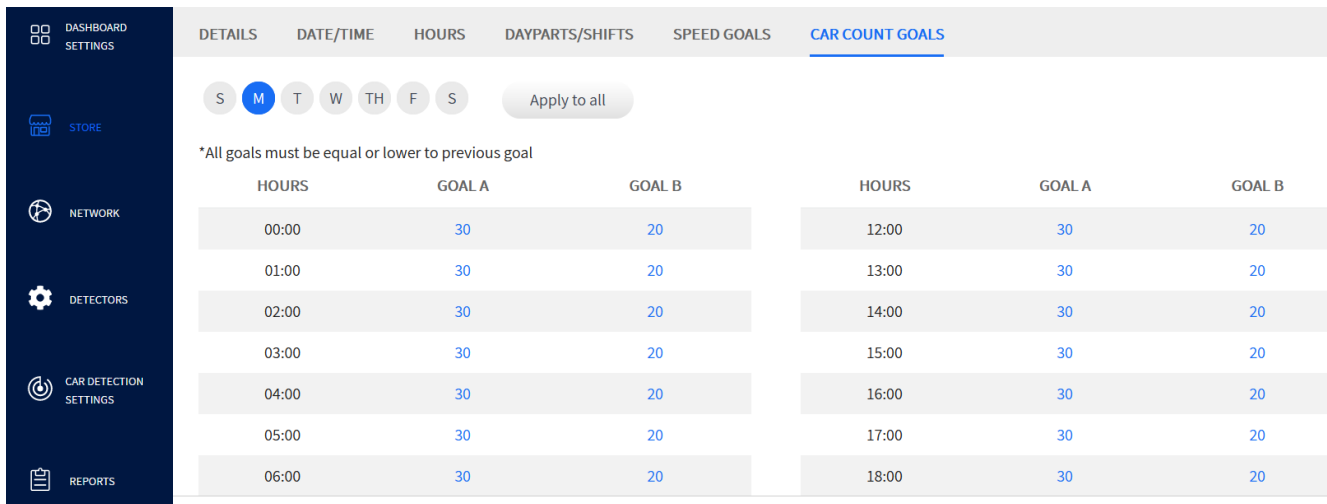

Fig. 4.6
**Example:** Fig. 4.6 shows days of the week and hours of the day (24-hour clock used, with only a partial table of hours visible). The table on the left is for AM, broken up into 12 one-hour segments; the table on the right is for PM, also broken up into 12 one-hour segments. Both tables show B as the initial goal target (lower value) with A being the preferred goal (higher value indicating greater business). Car count values on your Dashboard are red until goal B is reached. Then, once goal B is reached and exceeded, they become yellow indicating you are meeting your goal. The values between goals A and B remain yellow, and then if goal A is met or exceeded, the value turns green, indicating you are now exceeding your preferred goal.